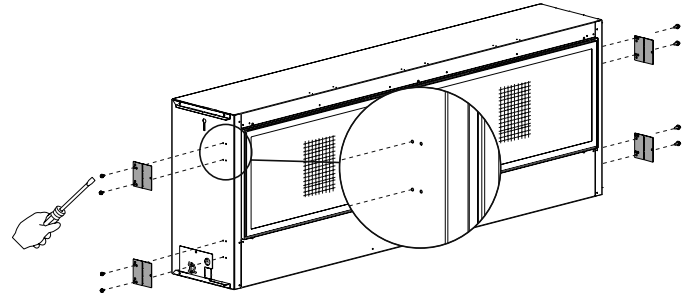

Figure 14 - OPTION 2
4. Insert fireplace into enclosure. See **Figure 14**.